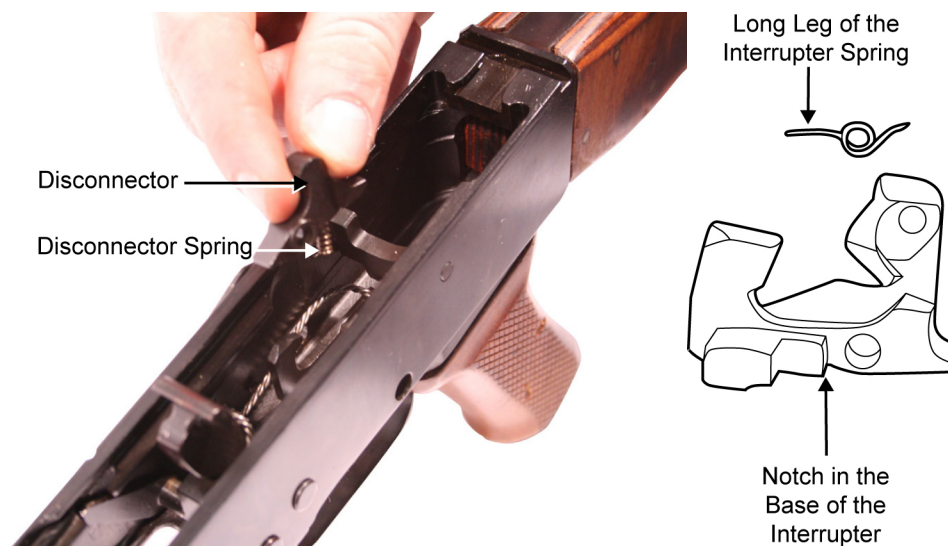

Figure 17. Removing the Disconnecter and Disconnecter Spring. The Interrupter and Interrupter Spring Removed.
- d. Remove the disconnecter and disconnecter spring. (If present, remove the interrupter and interrupter spring.) Refer to Figure 17.